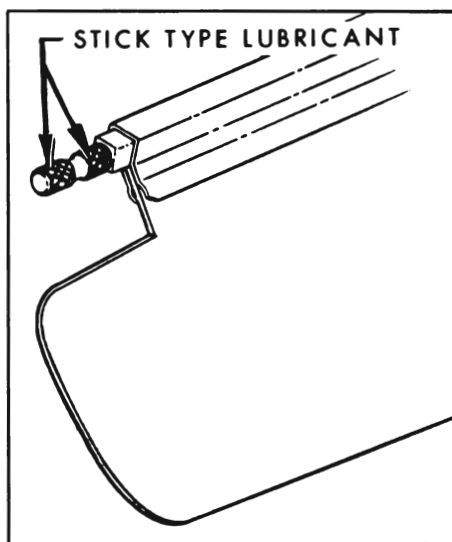

Figure 1-19—Lubrication of Sunshade Rod
**12. Sunshade Rod.** Remove sunshade from support and apply a thin film of stick type lubricant to end of sunshade rod. See Figure 1-19.